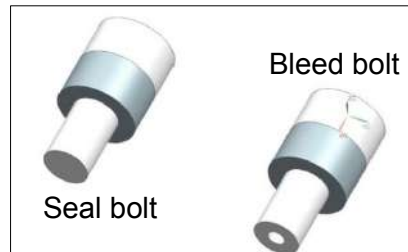
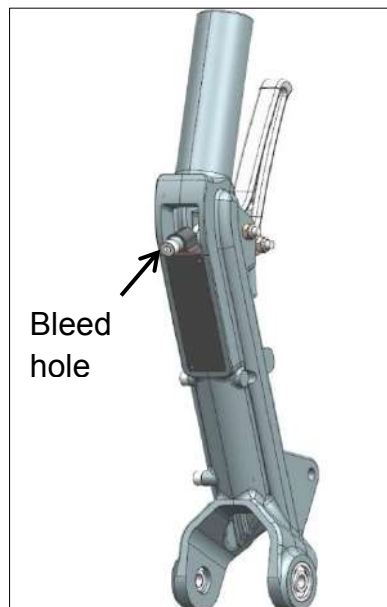

Figure 32-63: Master cylinder filler hole screws
Figure 32-64: Brake bleed hole location
4. Remove the seal screw from the master cylinder on the stick assembly and replace it with the bleed screw. Refer to Figure 32-63 for the screws and Figure 32-64 for the location of the bleed hole.